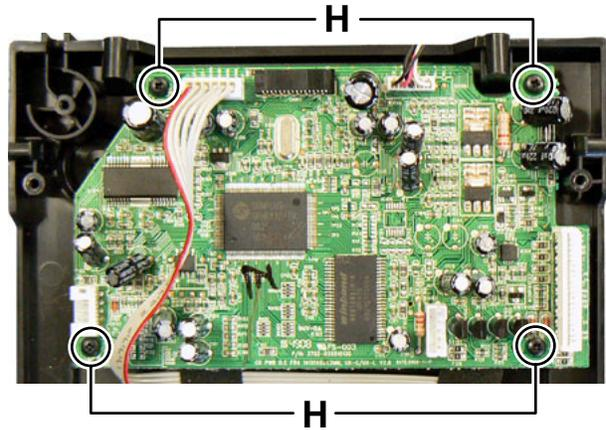

Fig.12
3.1.7 Removing the CD board (See Fig.12)